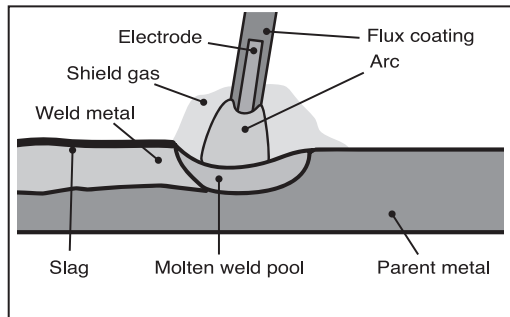

FIG. 10
8.4 ARC WELDING, FILLER ROD (ELECTRODE) SELECTION – FIG. 10